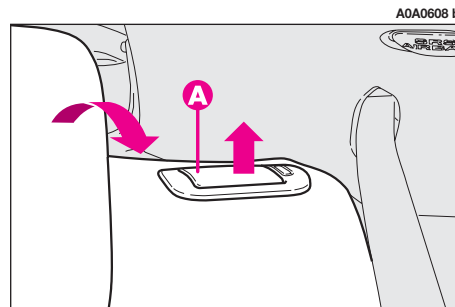
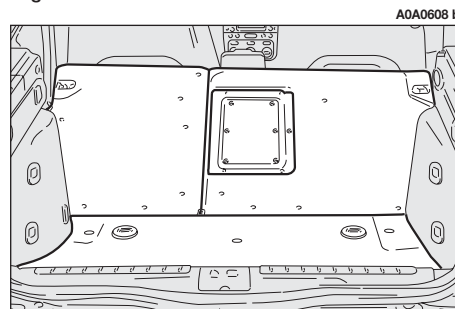

fig. 22
fig. 23
- raise the levers (**A-fig. 22**) retaining the back rests and tilt them forwards to obtain a single loading surface (**fig. 23**).